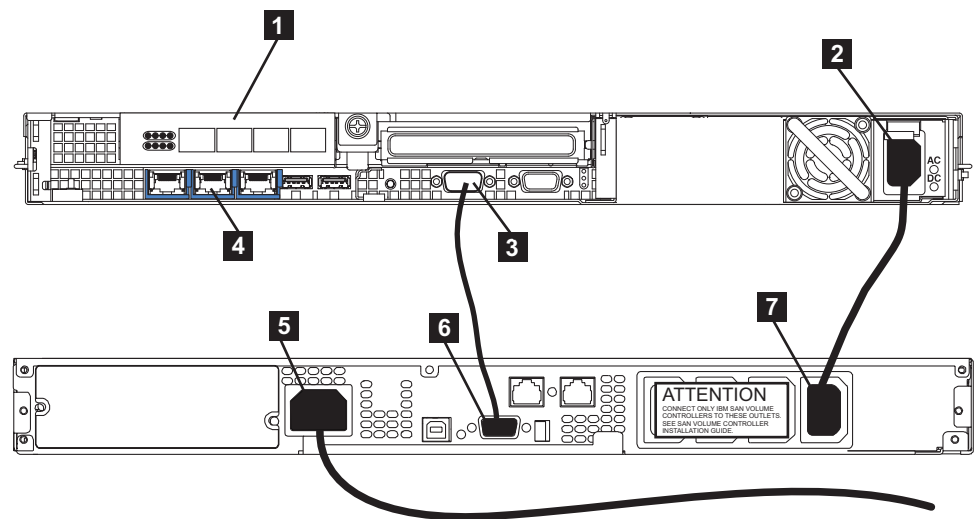

Figure 40. Connecting the SAN Volume Controller 2145-8G4 power cable to the 2145-1U uninterruptible power supply
1. At the back of the SAN Volume Controller 2145-8G4, plug the power cable of the combined power and serial cable into the power connector **2**, as shown in Figure 40.